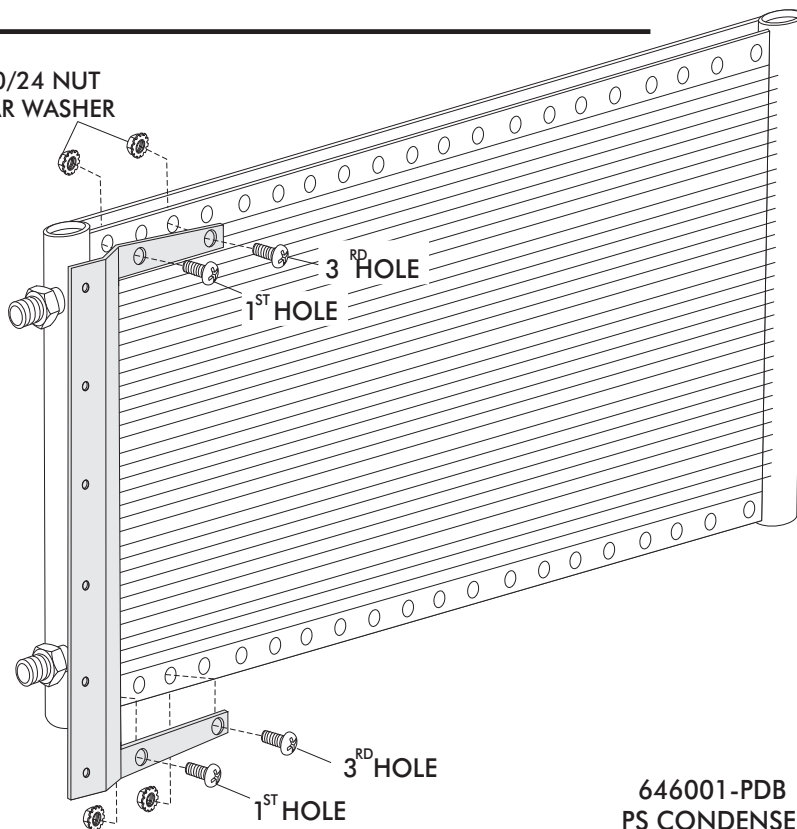

FIGURE 1
- INSTALL DRIER MOUNTING BRACKET ON CONDENSER USING (4) 10/24 x 3/8 PAN HEAD SCREWS AND (4) 10/24 NUTS WITH STAR WASHERS. SEE FIGURE 1 BELOW.